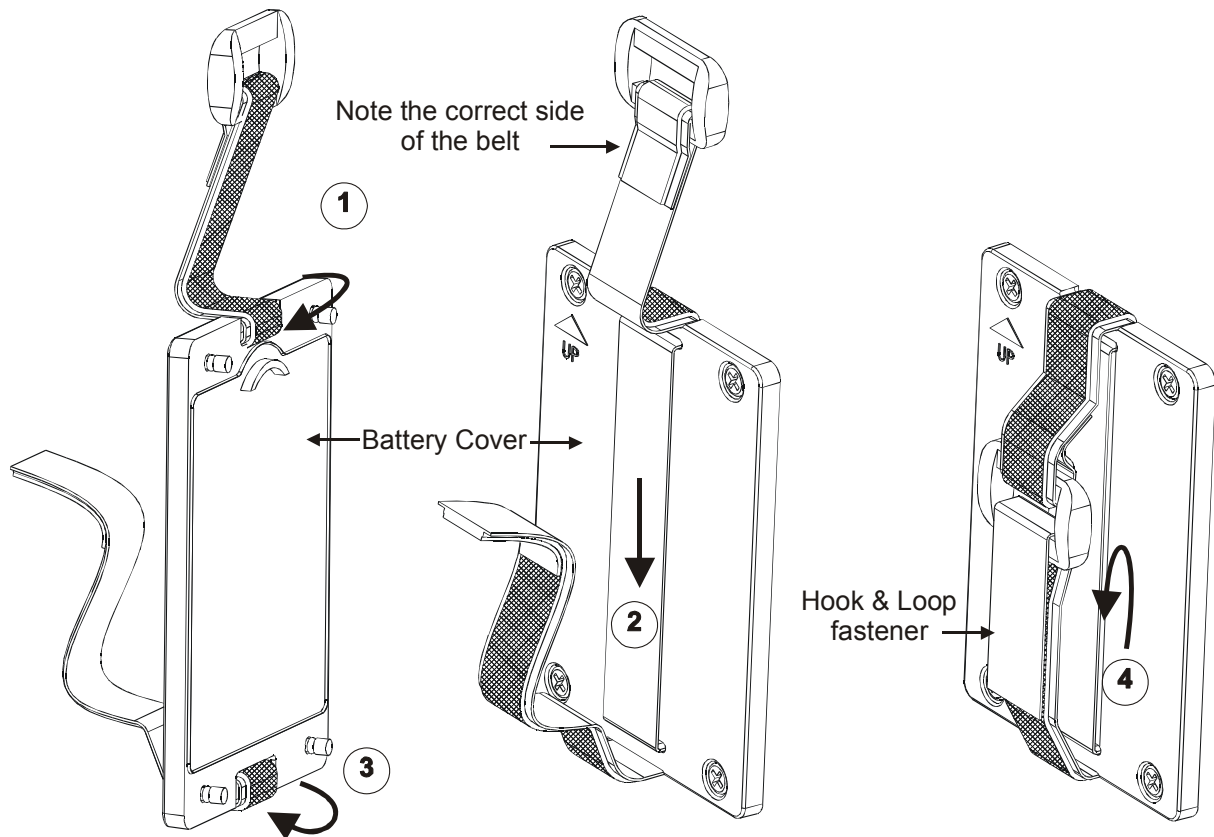

Figure 5 : Attaching safety belt
3. Insert the safety belt through the two slots as indicated in the Figure 5.